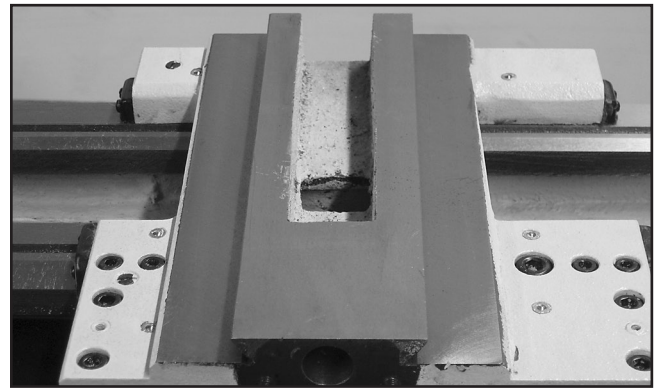

Figure 24. Cross slide removed from dovetails.
4. Slide the cross slide off the dovetails, as shown in **Figure 24**.